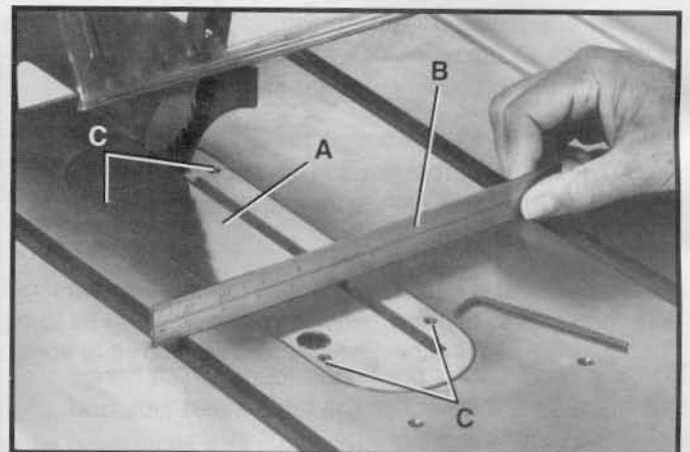

Fig. 51
Place a straight edge (B) across the table at both ends of the table insert (A) as shown in Fig. 51. The table insert (A) should always be level with the table. If an adjustment is necessary, turn the adjusting screws (C), as needed. Four adjusting screws (C) are supplied.